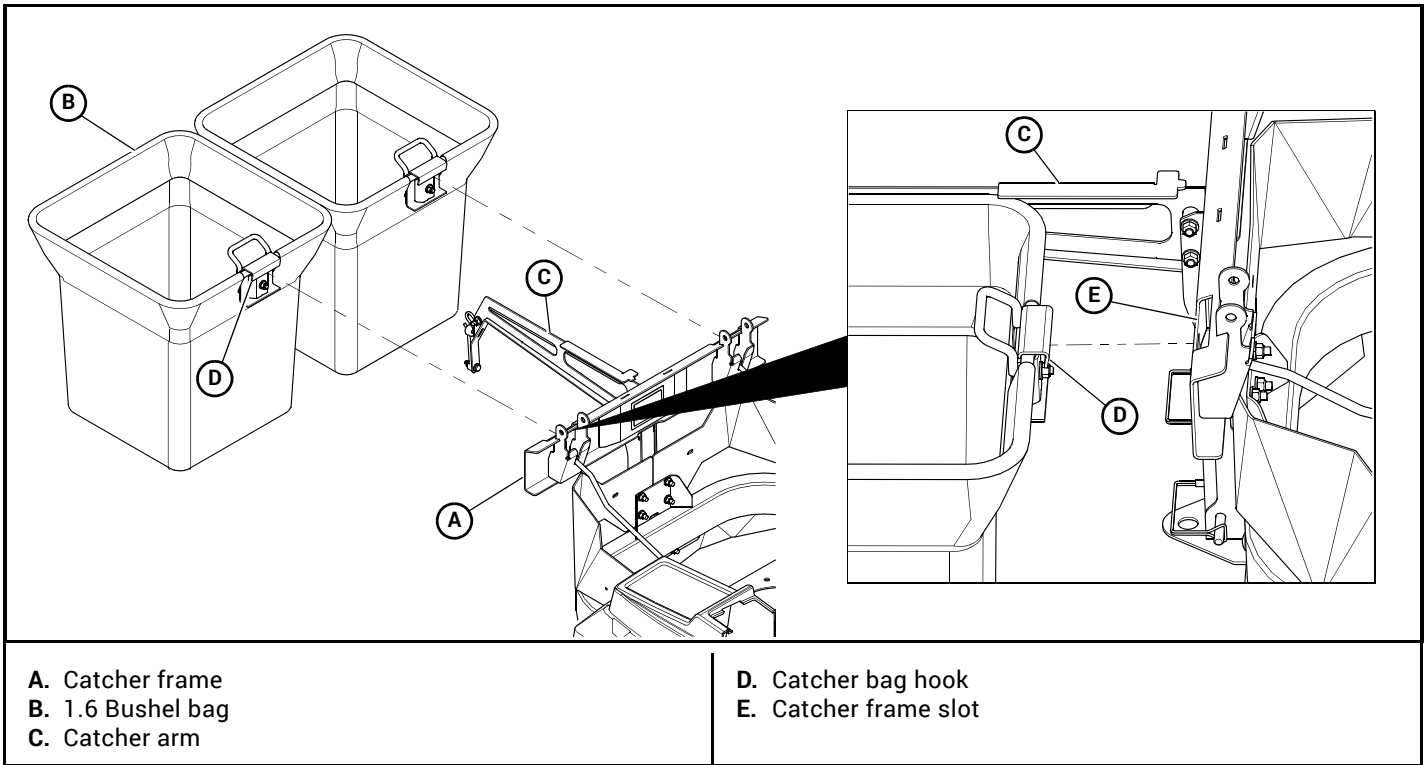

Figure 3-6
11. Place the bags on the catcher frame by inserting the bag frame hook into the catcher frame slot. Figure 3-6